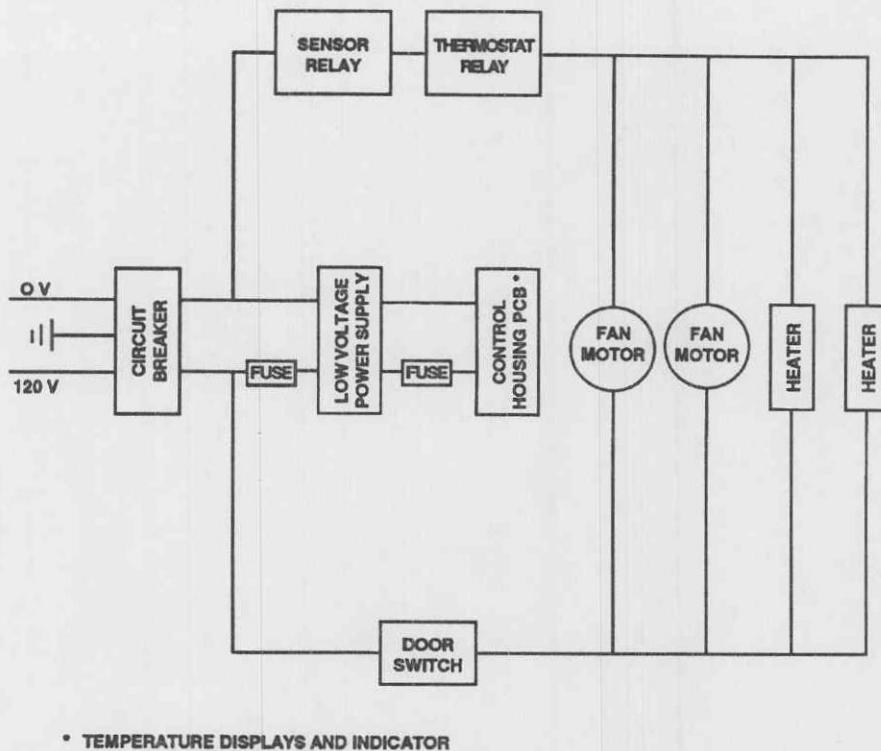

Figure 3-5. Electrical block diagram.
- An electrical block diagram is provided (fig 3-5) to assist you in using the preceding troubleshooting tables. The diagram will also be useful with the subsequent calibration procedures and maintenance instructions.
(5) Jumper strips on terminal block "2TB" and jack "J4" are furnished with the warming cabinet.